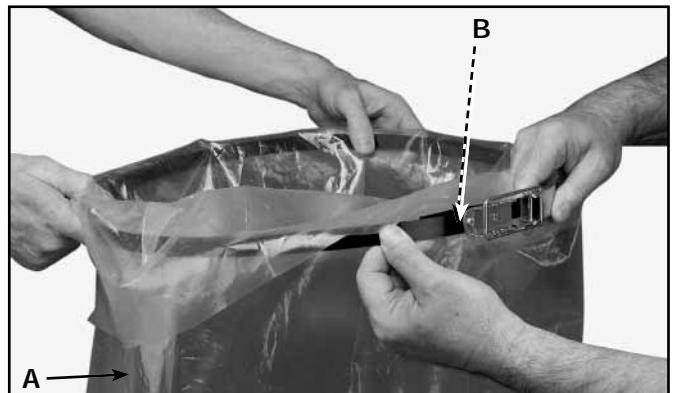

Fig. 10
The plastic bag can also be attached to the outside of the dust collector using the included clamp (B) Fig. 10:
1. Place clamp (B) around top of plastic bag (A) and fold about 4 to 6 inches of plastic bag over the clamp as shown in Fig. 10.